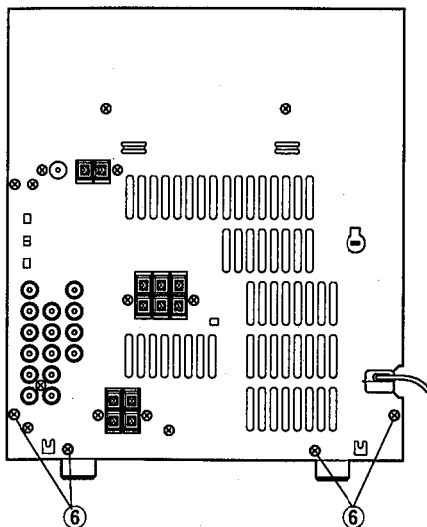

Fig. 6
4. Check of Main P.C.B. (1)
- Remove 4 screws (⑥) from the Rear Panel in Fig. 6.